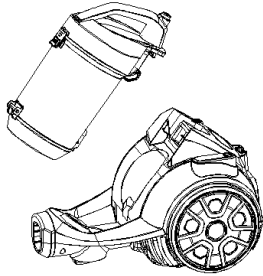

Fig.6
1. As in Fig.6, hold the dust cup and handle and push the release button.